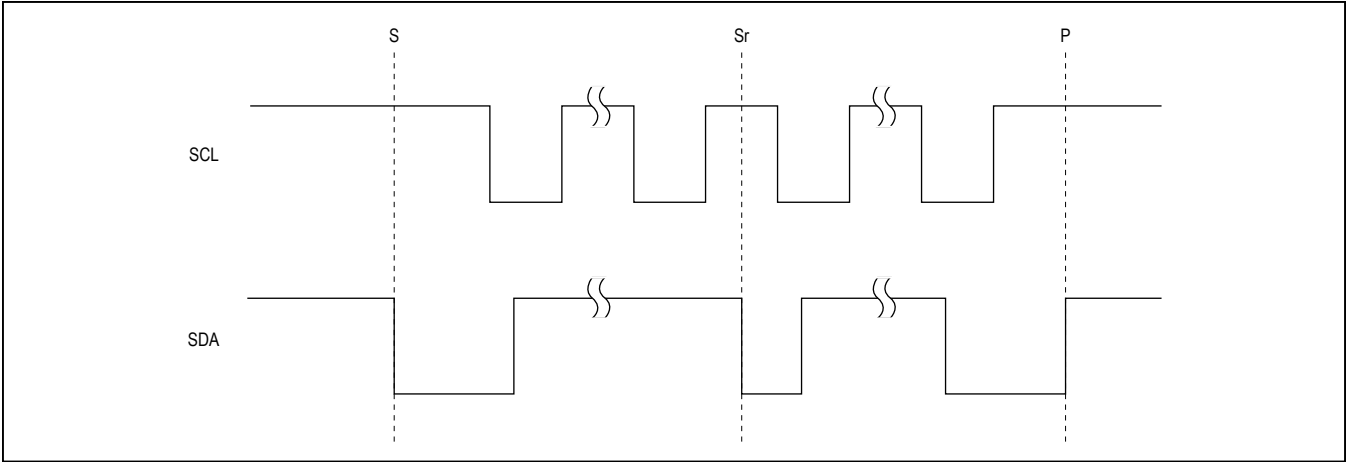

Figure 17. I2C START, STOP, and Repeated START Conditions
When writing to the MAX3107 using I2C, the master sends a START condition (S) followed by the MAX3107 I2C address. After the address, the master sends the register address of the register that is to be programmed. The master then ends communication by issuing a STOP condition (P) to relinquish control of the bus, or a repeated START condition (Sr) to communicate to another I2C slave. See Figure 17.